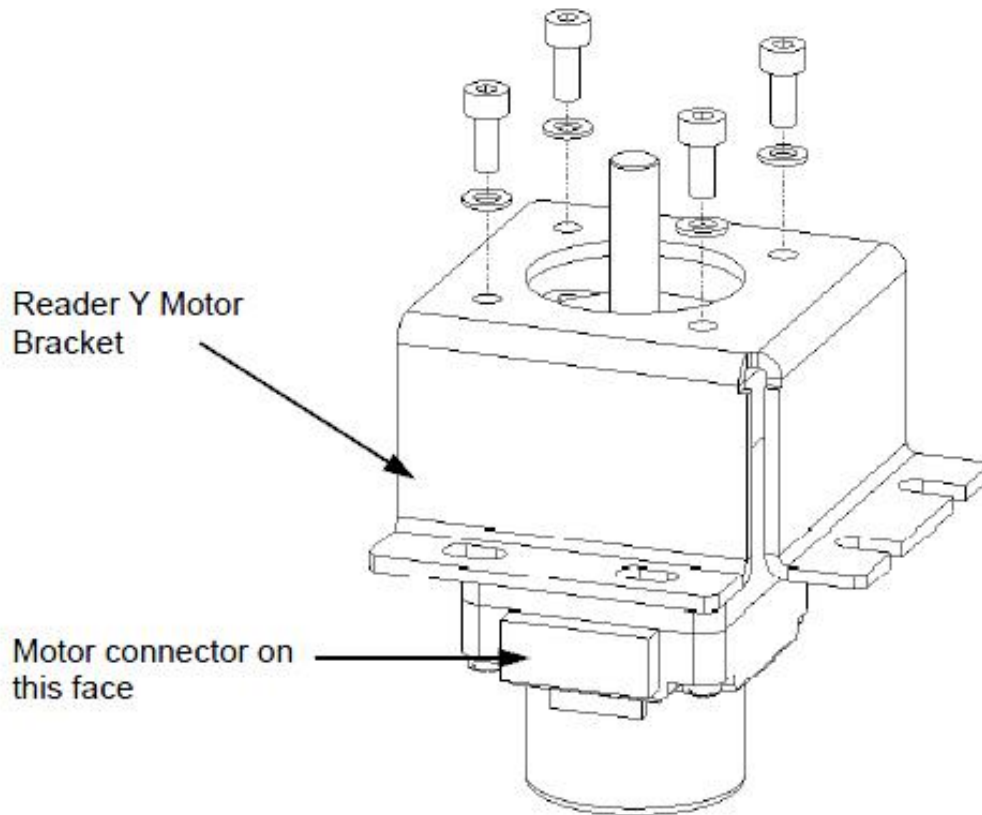

Figure N-17: Motor Bracket
1. Locate the Reader Drive Motor into the Reader Y Motor Bracket as shown in Figure N-17 and secure using four M2.5x6 Socket Cap Head Screws, four M2.5 Washers, and Loctite 222.